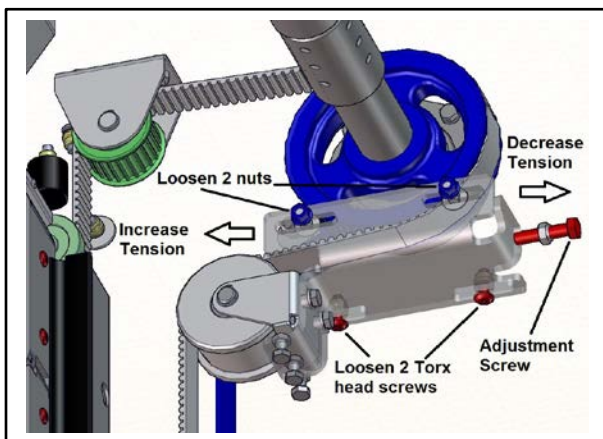
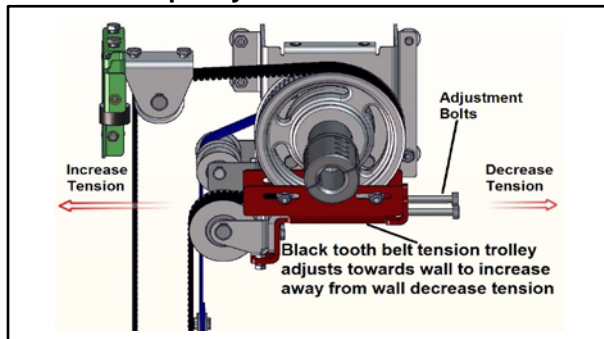

Figure 45
Figure 46
7. The trolley is secured with two Torx head screws on the bottom and two nuts on the side of the console. A bolt pushes the trolley towards the wall. The face of the console can be removed to provide greater access to trolley. (See Figure 45.)
3. Belt tension should just be snug. It is adjusted by repositioning the trolley at the top of the side column in S – Size doors. The trolley at the top of the side column increases tension as the trolley is moved towards the wall and decreases the tension when moved away from the wall. The face of the console can be removed to provide greater access to trolley. (See Figure 46.)
5. Performing the panel adjustment is similar for the L & S size doors. To see the difference in trolleys see figure 45 (L-size) page 20 and figure 46 (S-size) page 21. On the side that is high release the tension by adjusting the trolley at the top of the side column. (See Figure 50.)